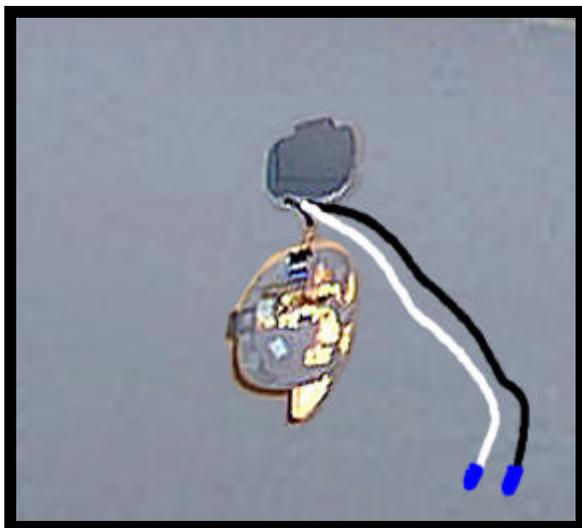

FIGURE 5
7. Construct a jumper harness that will connect the vehicle's dome light wires to the lights in video system. Connect the white wire to the O.E. pink wire. Connect the black wire to the O.E. yellow wire. See Figure 5.